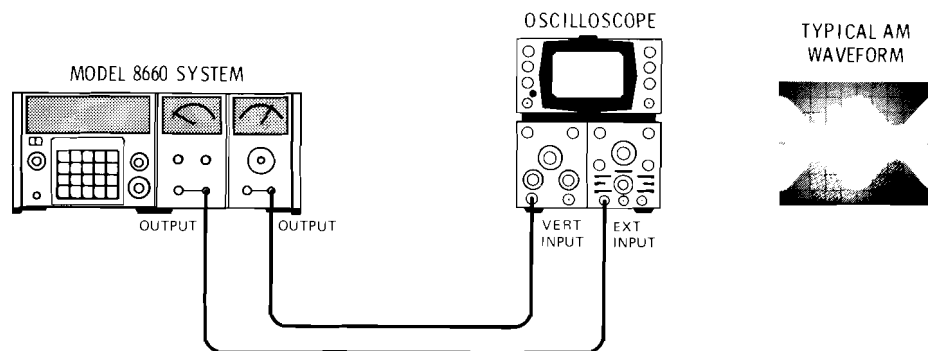

Figure 4-2. Amplitude Modulation Depth and Meter Accuracy Test Setup
1. Connect the equipment as shown in Figure 4-2.
- 5. Set the Modulation Section MODE control to AM and the SOURCE control to INTERNAL 1000. Adjust the MODULATION LEVEL control to 2 divisions between peak and valley of the AM envelope display on the oscilloscope. See Figure 4-2 for a typical waveform.
7. Adjust the MODULATION LEVEL control until the AM envelope displayed on the oscilloscope shows 2 divisions between peak and valley. See Figure 4-2 and verify that the meter reading is between 45 and 55%.